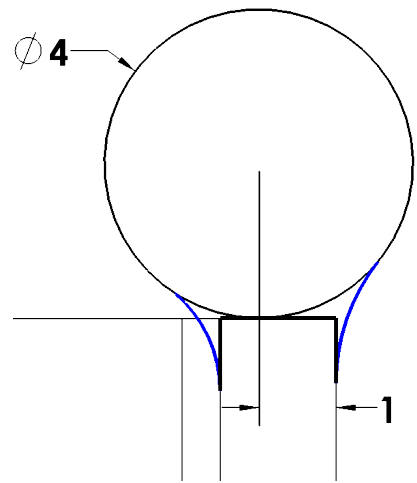

Fig. 7
Step 14. Start another line from _____ tangent point on top edge of body across to outside edge and down along edge. Auto-transition to Tangent Arc tool and sketch arc up to circle, **Fig. 7**. Click to place the arc.